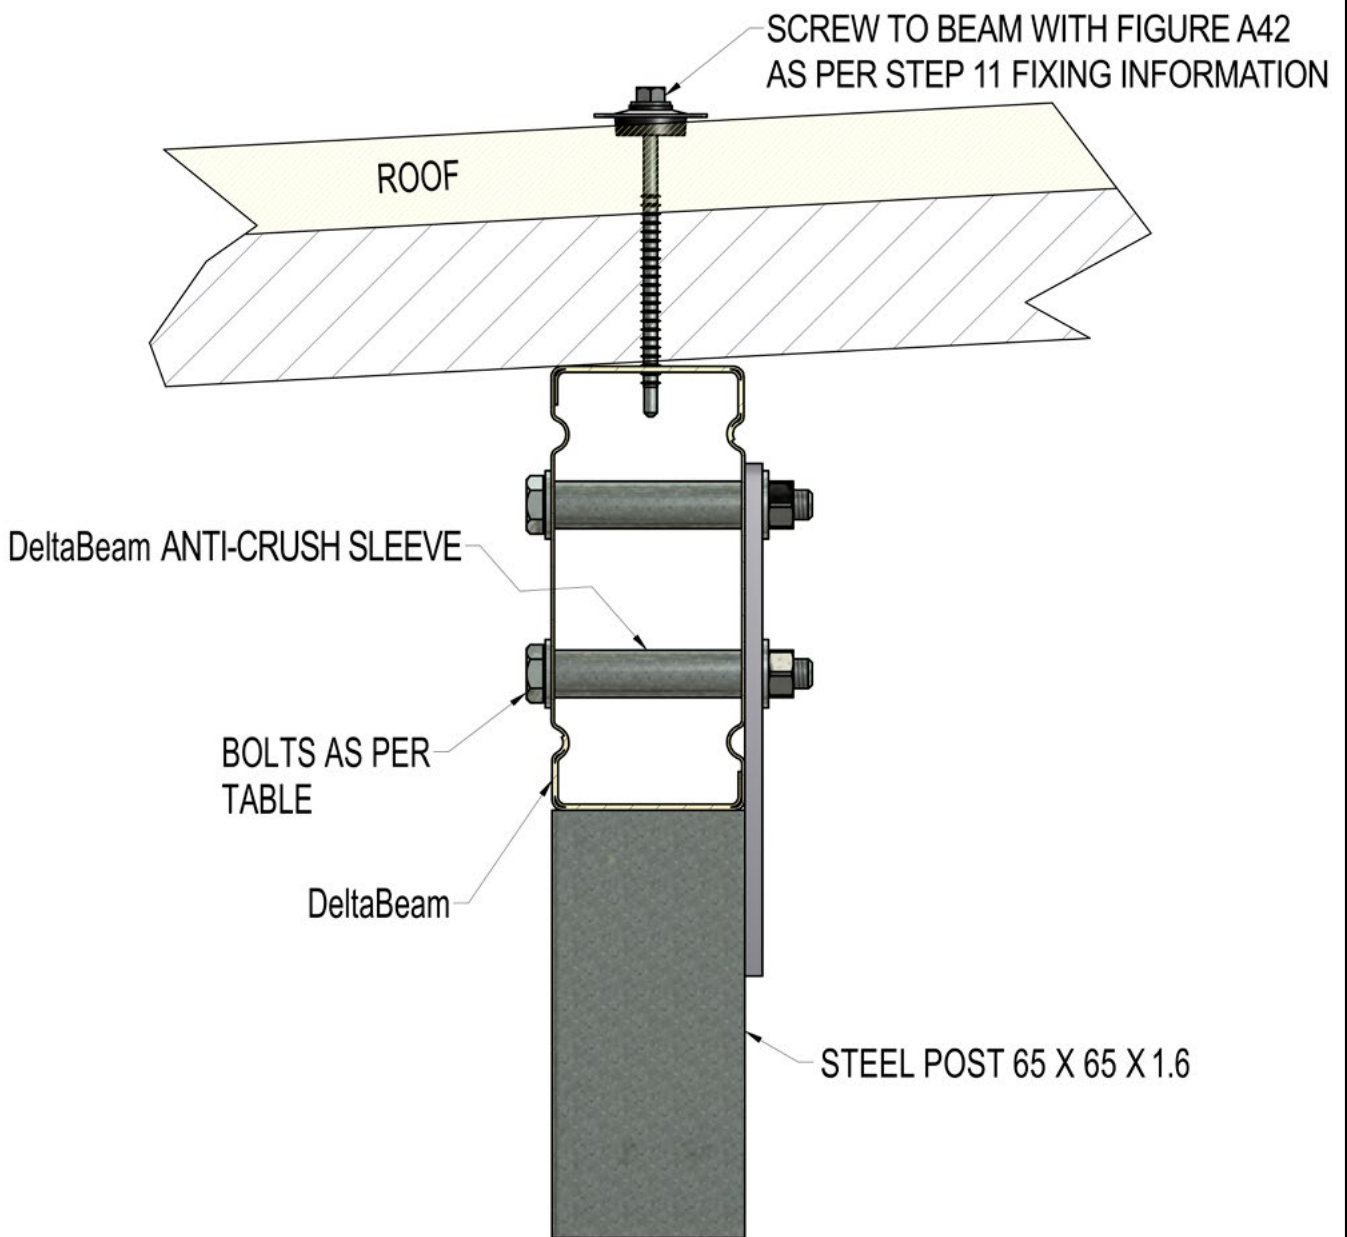

Figure A23
**Delta™ Steel or Aluminium Beam to Post (see Figure A23)**